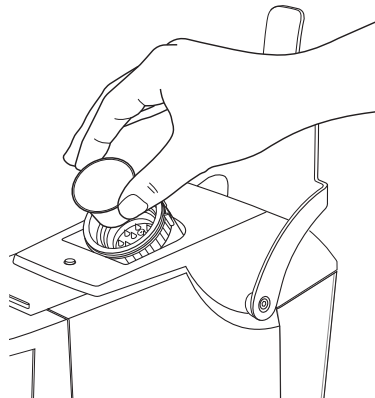

Figure 4
5. Insert coffee capsule into the capsule cartridge. See figure 4.
6. Push capsule holder firmly into the cradle. See figure 4.